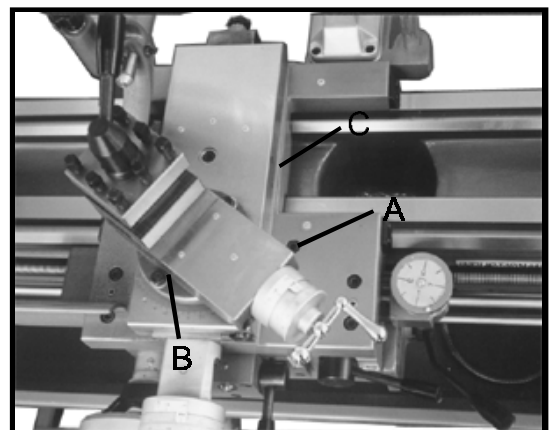

Fig. 15
8. **Carriage Lock** (A, Fig.15) – hex socket cap screw located on top rear of carriage body. Turn clockwise and tighten to lock. Turn counter-carriage. Caution: carriage lock screw must be unlocked before engaging automatic feeds or damaged to lathe may occur.
9. **Compound Rest Lock** (B, Fig.15) – set crew located on side of compound rest. Turn clockwise to lock and counter-clockwise to unlock
10. **Cross Slide Lock** (C, Fig. 15) – set screw located on